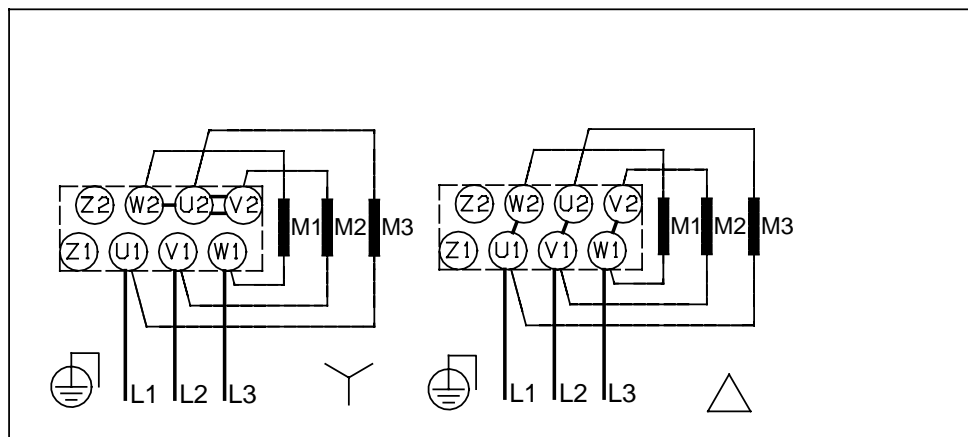

Fig. 3
<ul style="list-style-type: none"> <li>Check the winding resistance in the three windings by means of an ohmmeter.</li> <li>Measuring points, see <a href="#">fig. 3</a>.</li> <li>Measuring values, see parts list pos. 150.</li> </ul>	<ul style="list-style-type: none"> <li>If the measured value is outside <math>\pm 10\%</math> of the nominal value, the stator with housing should be replaced. See section <a href="#">4.4 Replacement of stator with housing</a>.</li> </ul>